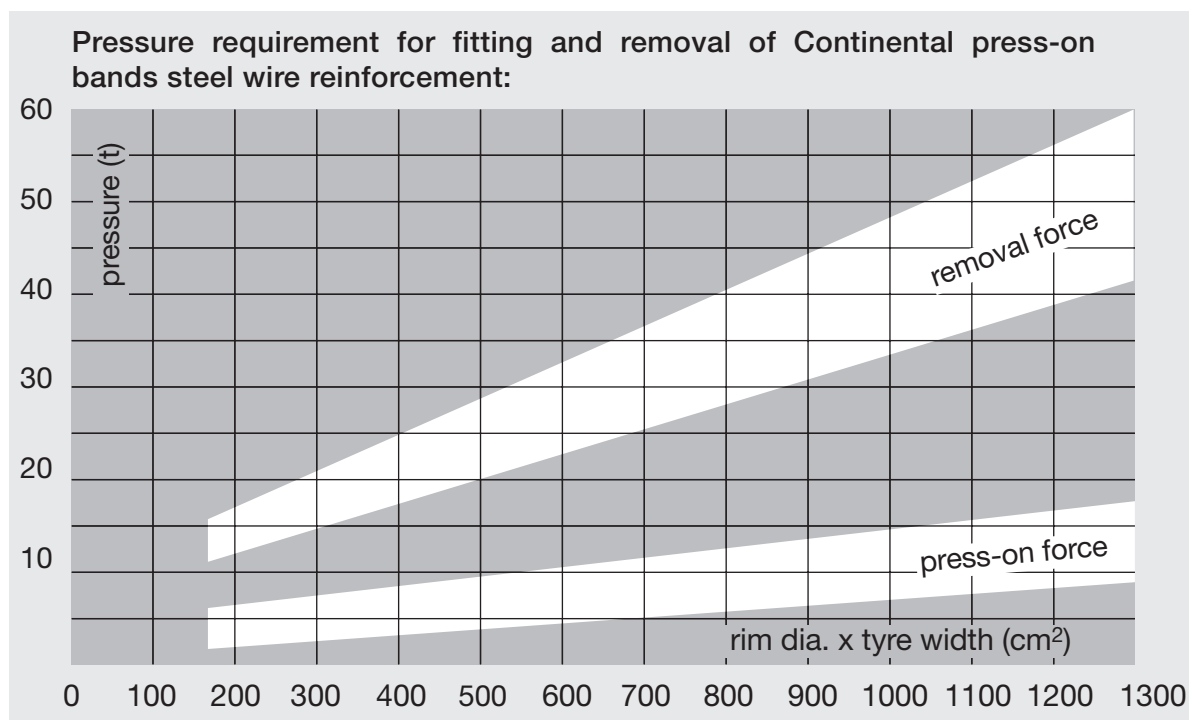

Fig. 1 Expansion ring (C)
- Expansion ring (fig. 1), to suit the rim diameter (max. outer dia. = rim dia. + 1 mm). The ring also serves as a support when pressing off the tyres. Tyres of up to 100 mm in width can be pressed on without using an expansion ring if the rim has a chamfer of less than 30° over at least 3 mm width on the side where the tyre is to be pressed on.